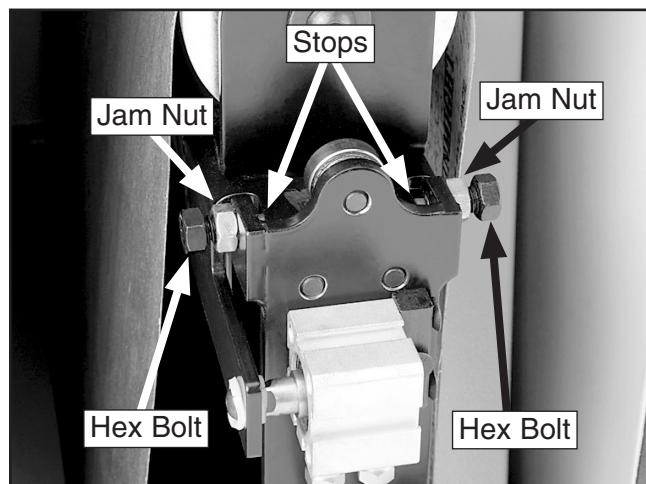

Figure 25. Sanding belt oscillation stops.
The rate of sanding belt oscillation can be changed by adjusting the oscillation stops shown in **Figure 25**.
- Open the sanding belt access door and identify the oscillation stops shown in **Figure 25**.